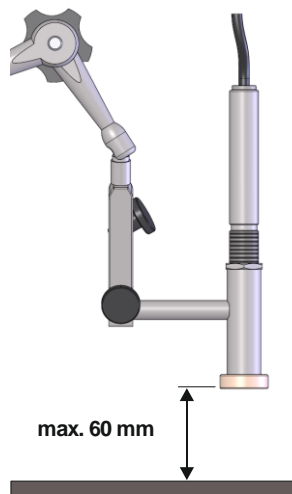

Fig. 3: Positioning the measuring device
- Keep the distance to the measurement area as short as possible. The distance is measured from the front edge of the boot (max. distance 60 mm → Fig. 3).